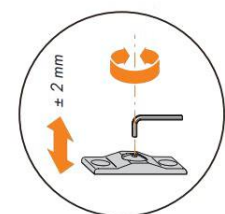

Figure 4
- to adjust sideways, turn the adjusting screw at the bottom of the lower corner joint (Figure 4) or the adjusting screw of the upper shear (Figure 5) using a 4-mm Allen key.